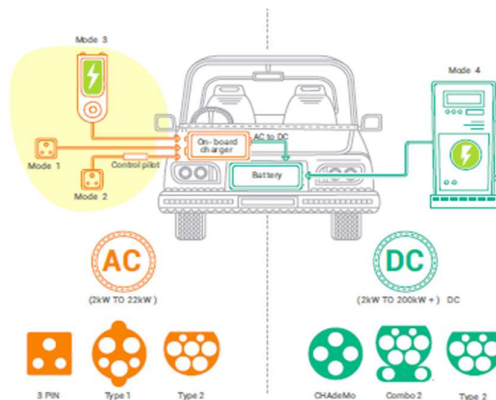

Fig. 3.18: Types of Charging Systems
Electric Vehicle (EV) charging systems can be categorised based on charging speed, type of current (AC or DC), and location of installation. Each type of system has its own features, applications, and levels of power delivery, as shown in Fig. 3.18.